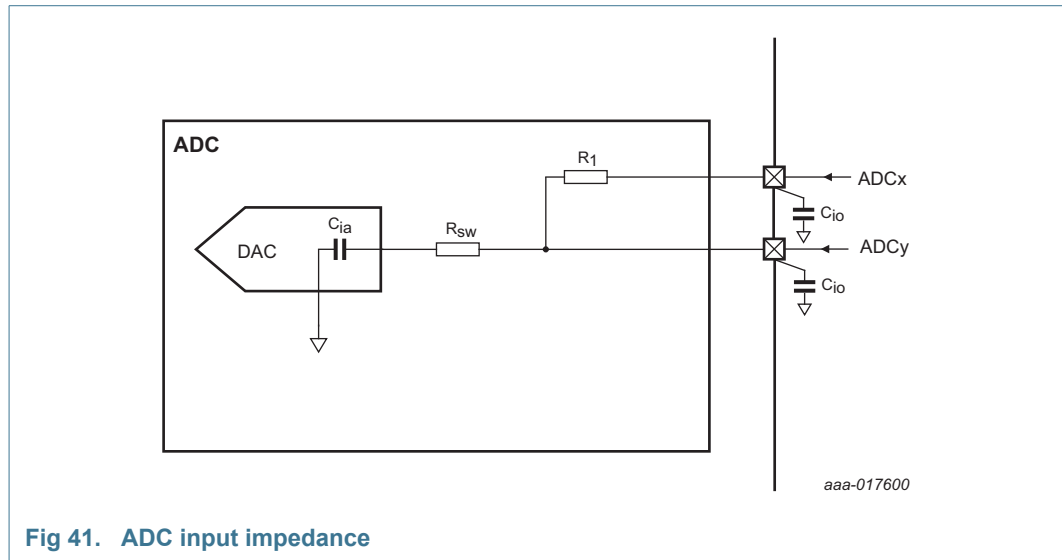

Fig 41. ADC input impedance
- [10] Input impedance Z_i is inversely proportional to the sampling frequency and the total input capacity including C_{ia} and C_{io} : $Z_i \propto 1 / (f_s \times C_i)$. See Table 21 for C_{io} . See Figure 41.
Figure 41 shows the ADC input impedance. In this figure: